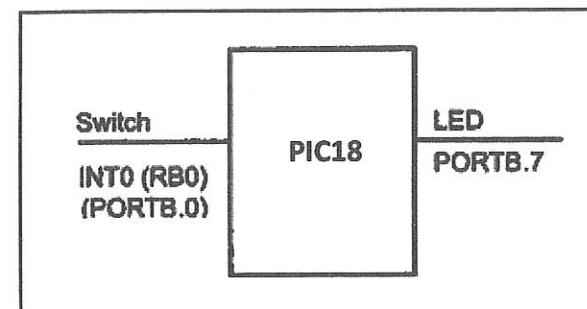

Figure A4(c) / Rajah A4(c)
- (c) A security door is attached to a sensor switch (SW1) which is connected to port B of PIC18 microcontroller (INT0/RB0) and a lamp (LED) connected to Port RB7. Build a program, so that every time the door is opened, the light will be turn on. Refer Figure A4(c).